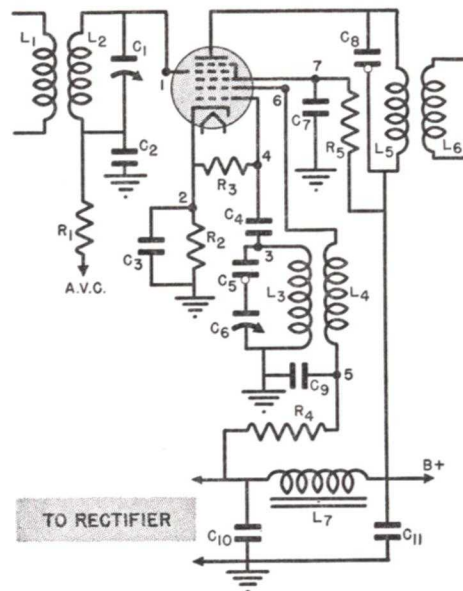

FIG. 14. There are several possible causes of modulation hum in the frequency converter stage.
**Defective Part Isolation.** Suppose your stage isolation tests show that the modulation hum arises in a frequency converter stage like the one shown in Fig. 14. Let's see how the defective part may be found.